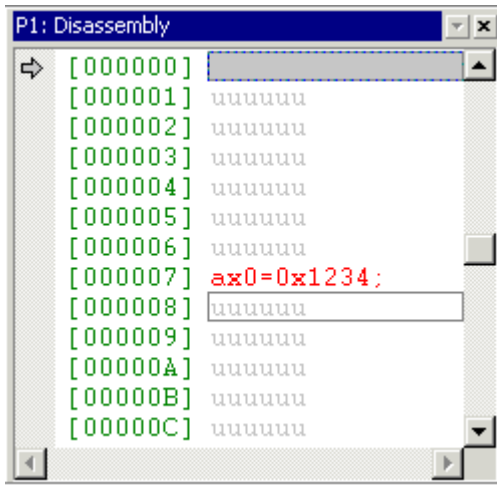

Figure 2-43. Disassembly Window: Patching a New Instruction into Processor P1's Memory
3. Type the instruction `ax0=0x1234` and press **Enter**. The instruction is written into P1's memory, and the **Disassembly** window is updated as shown in Figure 2-43 on page 2-57 to reflect this new instruction.